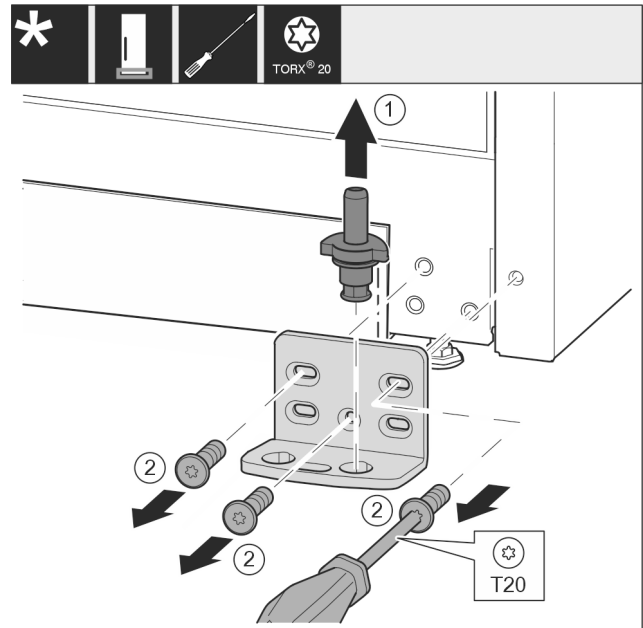

Fig. 30
- ▶ Pull the bearing bolt Fig. 30 (1) out upwards completely.
- ▶ Use screwdriver to unscrew the screws Fig. 30 (2) and remove the swap bearing block.